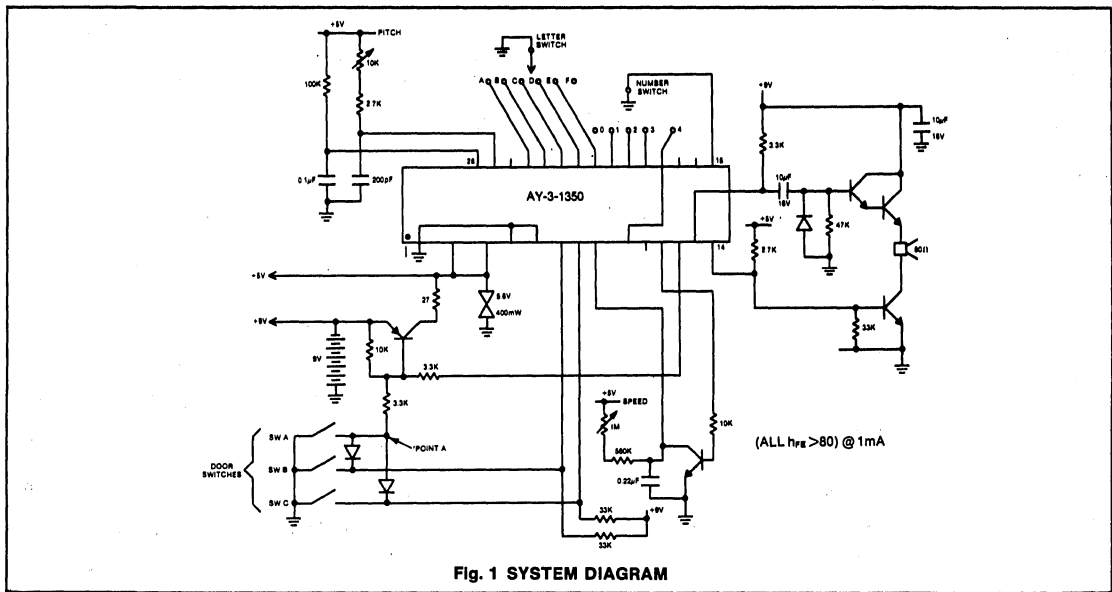

Fig. 1 SYSTEM DIAGRAM
There are many ways to connect the standard device depending on the exact application. Figure 1 shows just one implementation of the device in a doorchime. This circuit gives access to all 25 tunes from switch A and one of 5 tunes from switch B as well as the descending active chime from switch C. The tune selected for switch B follows the tunes list given earlier according to the setting of the two tune select switches (A—E and 0—4). The tune selected from the switch C in Figure 1 is one of the five tunes A0 and E0 depending on the setting of the letter switch. For example, suppose the letter switch is a E and the number switch at 4 then the tunes given by the Figure 1 circuit will be:
In Figure 1 there is virtually no power consumption in the standby condition (external transistor leakages only). When any door switch is activated the circuit powers up, plays a tune, and then automatically powers down again to conserve the battery, even if the operator keeps his finger on the push to the end of the tune. He must release it and re-press to play again with the circuit of Figure 1. Any of the door switches will pull point A to ground
Figure 1 shows only a typical one-chip implementation. Further options come from use of different switching and/or from use of the next tune facilities built into the chip. These will now be considered in turn.
In Figure 1 the Back-door Group Select pin (16) is not connected, and one of the five tunes A0 to E0 will play if the back-door push is activated. Other number groups can be chosen by connecting the Back-door Group Select pin as follows:
Using the power-up circuit of Figure 1 the AY-3-1350 will have +5V supplied to it and latched within a few microseconds (depends on external components) from any bell-push closing. The device starts to operate when the RESET pin reaches logic 1 (about 10ms with components shown) but in fact the tune select switches are not interrogated until approximately 6 ms later. The total is sufficient for most bell-pushes to complete any bounce period and for a firm selection of tunes to be made.
At the end of playing a tune the example circuit of Figure 1 powers down because ON/OFF (pin 12) is raised to a logic 1 by the device at the end of a tune. The simplified flow diagram in Figure 5 shows that before the power down there is a test for connection between NEXT TUNE (pin 10) then RESTART (pin 17) with TUNESELECT 4 (pin 9). At these times NEXT TUNE (pin 10) then RESTART (pin 17), which are normally at logic 1, output a logic ϕ pulse. This is looked for at input TUNESELECT 4 (pin 9).
If neither is found the power down system is reached as in Figure 1. A NEXT TUNE (pin 10)—TUNE SELECT 4 (pin 9) connection at the moment of test causes the next tune in the list to be played after a short pause (equal to a musical breve—the actual time depends on the setting of the tune speed control). The order of the tunes is A0 to E4 as given in the listing of standard AY-3-1350 tunes. If the last tune (E4) was played then the circuit will go on to play the first tune A0 (and then successive ones). Figure 5 shows this pictorially. The chimes are not included in the cycling sequence.